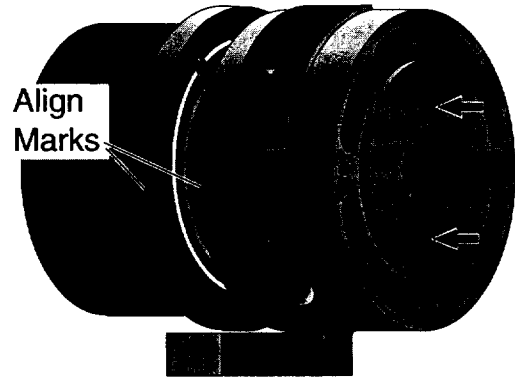

Figure 24
4. *Carefully* slide the adapter over the shaft (see Figure 24). Do not damage the shaft sealing surface; it is highly polished and any slight scratches or nicks will ruin it.